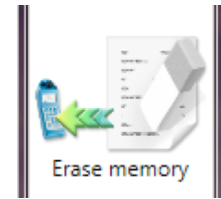

Figure 36
2) Click on the **"ERASE MEMORY"** button in the Tool Panel (Figure 36)